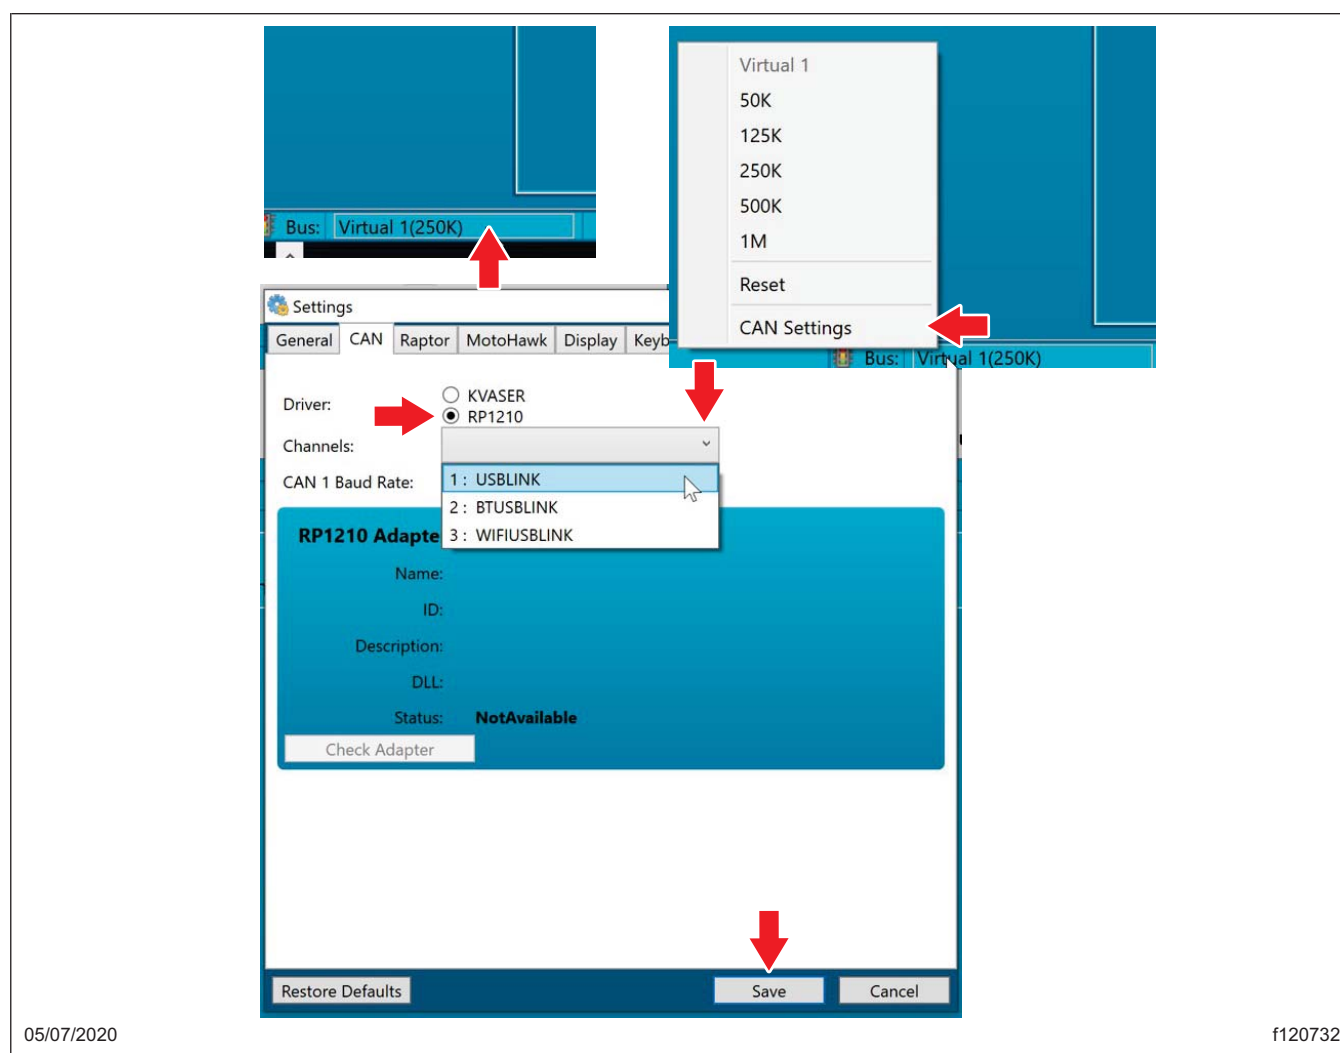

Fig. 23, Virtual 1(250k) Window
3. Right click the 'Virtual 1(250k)' box, then select 'CAN Settings.' See Fig. 23.
4. Select 'RP1210' or 'Kvaser' from the 'Driver' options as applicable, shown in Fig. 23.
5. Select the 'Channels' drop-down list, then select the interface being used and select 'Save.' See Fig. 23.